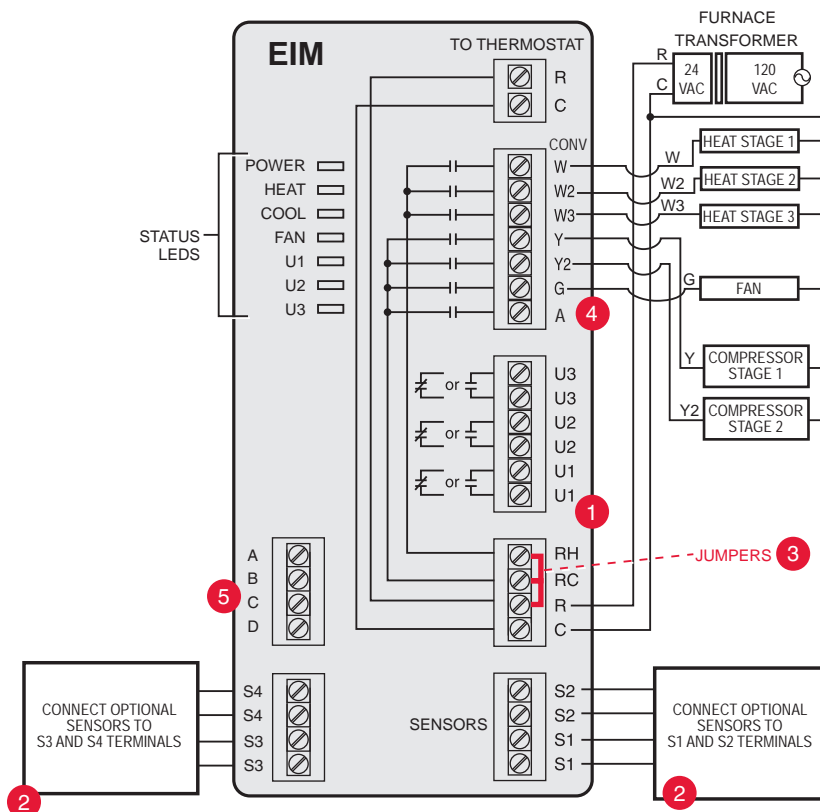

Fig. 314. EIM wiring guide — conventional systems.
All wiring must comply with local electrical codes and ordinances. See Fig. 314–350.
6. See Fig. 314–337 for typical wiring hookups.